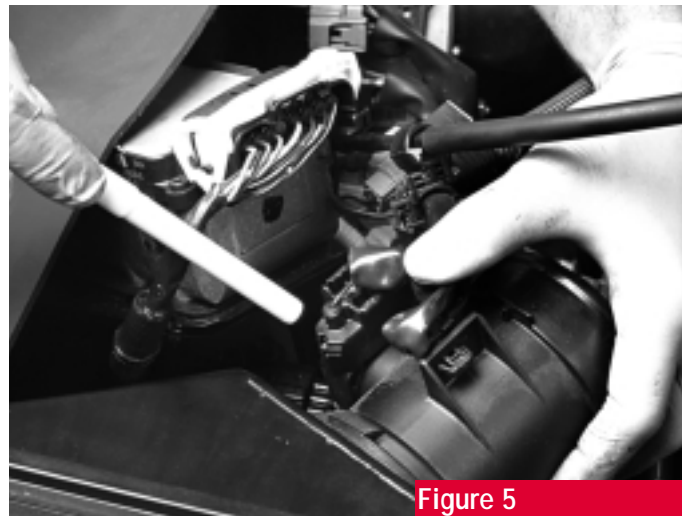

Figure 5
*CAUTION: The air sensor (**see pointer, figure 5**) is fragile so be careful when working around it.*